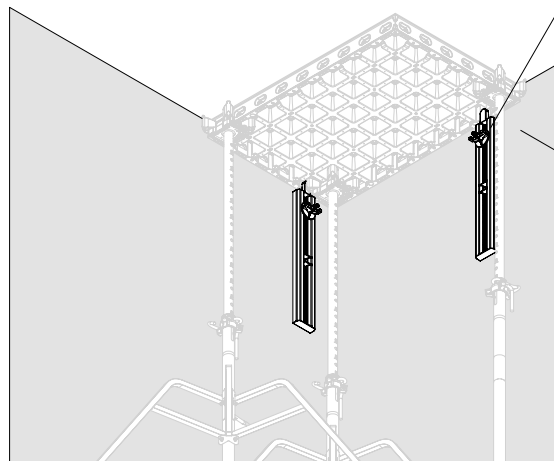

Fig. D1.05
3. Tighten the DUO 82 wall holder (**26**) with the DW 15 wingnut counterplate (**54**). (Fig. D1.05)